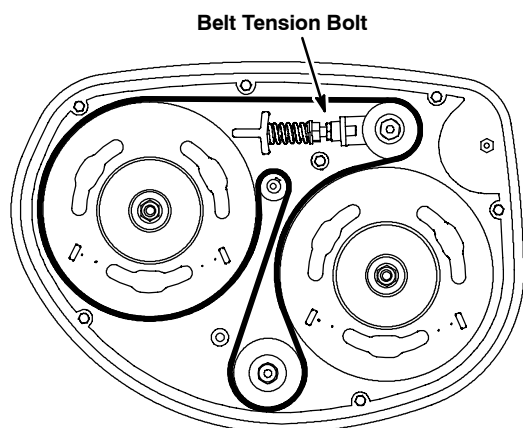

FIG. 64
- To replace the belt, completely loosen the belt tension bolt and install the new belt as shown (Figure 64). Match the groove side of the belt to the grooved pulleys.